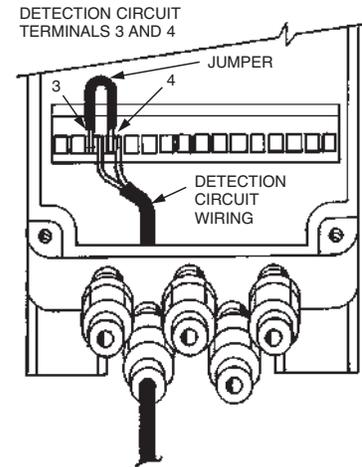

FIGURE 43
8. **Check first time delay – Alarm to Shutdown** – Using a short length of insulated wire stripped at both ends, hold one end of the wire to Terminal 3 and the other end to Terminal 4 on the control module. See Figure 43.